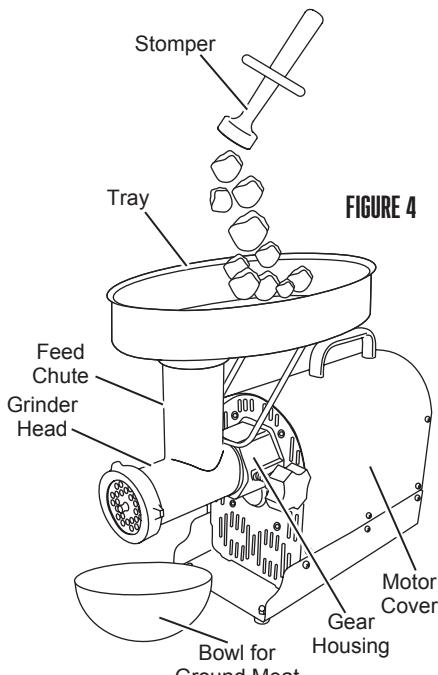

FIGURE 4
6. Place a dish or bowl to collect the ground meat at the end of the Grinder Head (**FIGURE 4**).